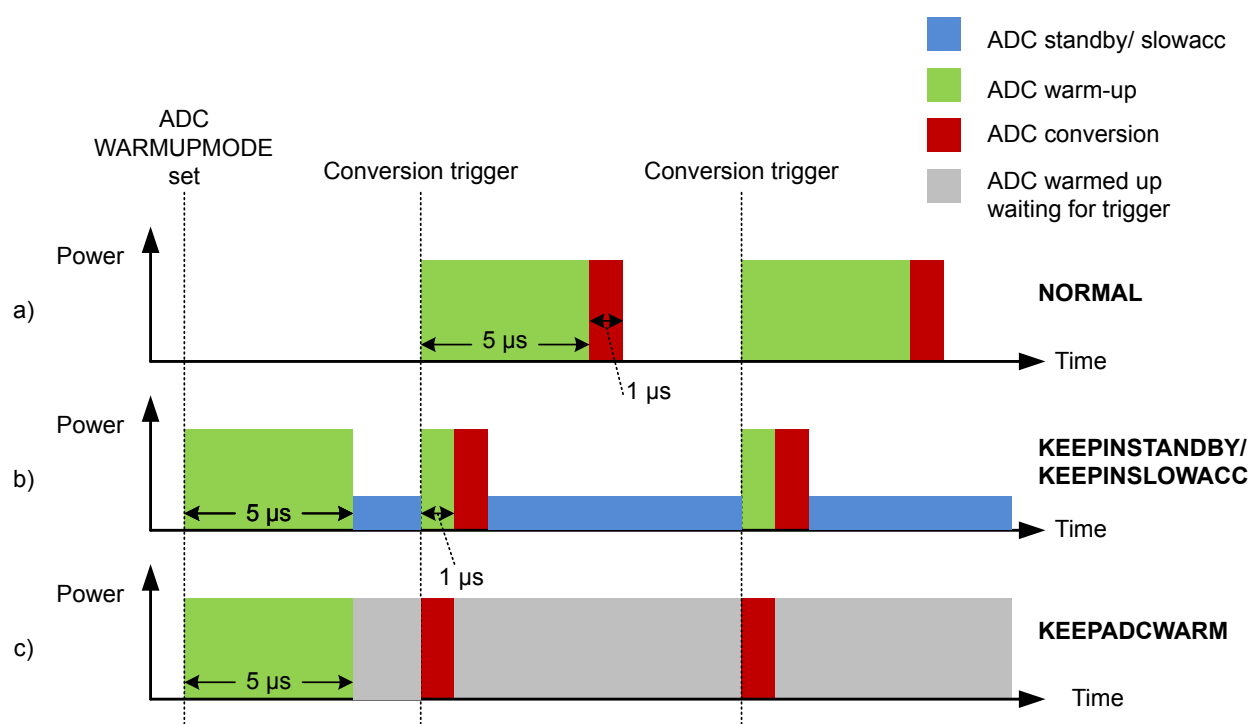

Figure 26.4. ADC Analog Power Consumption With Different WARMUPMODE Settings
Normally, the ADC will be warmed up only when samples are requested and is shut off when there are no more samples waiting. However, if lower latency is needed, configuring the WARMUPMODE field in ADCn_CTRL allows the ADC and/or reference to stay warm between samples, reducing the warm-up time or eliminating it altogether. Figure 26.4 ADC Analog Power Consumption With Different WARMUPMODE Settings on page 850 shows the effects on analog power consumption in scenarios using different WARMUPMODE settings.
- **NORMAL:** This is the lowest power option for general-purpose use and low sampling rates (below 35 ksps). The ADC and references are shut off when there are no samples waiting. The ADC does not consume any power when it is shut down. A 5 μ s warmup time will be initiated prior to every conversion. Figure a in Figure 26.4 ADC Analog Power Consumption With Different WARMUPMODE Settings on page 850 shows this mode.
- **KEEPINSTANDBY:** This mode is suitable for infrequent sampling of lower impedance inputs, and is the lowest power option for sampling rates between about 35 and 125 ksps. It may also be useful for lower sampling rates where latency is important. The reference selected for scan mode is kept warm, but the ADC is powered down. The ADC will initiate a 1 μ s warmup period before a conversion begins. Because the reference is kept warm, the ADC will consume a small amount of standby current when it is not converting. Figure b in Figure 26.4 ADC Analog Power Consumption With Different WARMUPMODE Settings on page 850 shows this mode.
- **KEEPADCWARM:** This mode provides the lowest latency and allows for maximum sampling rates. The ADC and reference circuitry remain powered on even when conversions are not in progress. Figure c in Figure 26.4 ADC Analog Power Consumption With Different WARMUPMODE Settings on page 850 shows this mode. This mode consumes the most power, but as soon as a trigger event occurs, the acquisition and conversion begin with no warm-up time. Note that if KEEPADCWARM mode is set and HFXO is selected as the ADC clock source, the HFXO will remain on in EM2.